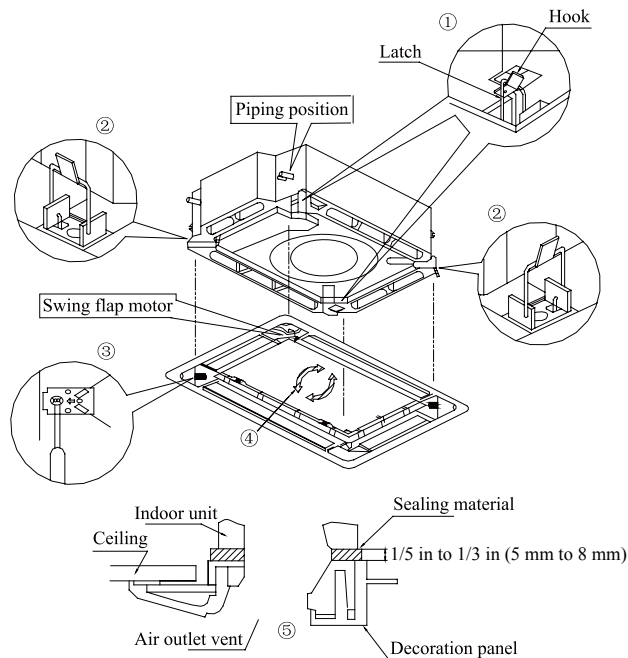

Fig.13
1. Set the panel to the indoor unit body by matching the position of the swing flap motor of the panel to the piping position of the panel to the piping position of the indoor unit as shown by fig.13.
① Install the panel on the indoor unit temporarily. When install, hang the latch on the hook that is located on the opposite side of the swing flap on the panel of the indoor unit. (2 positions)
② Hang the remaining 2 latches to the hooks on the sides of the indoor unit. (Be careful not to let the swing motor lead wire get caught in the sealing material.)
③ Screw the 4 hexagon head screws under the latches in about 3/5 in (15 mm). (The panel would rise)
④ Adjust the panel by turning it toward the direction pointed by the arrow as shown in fig.13, so that the adjust board connect the ceiling well.
⑤ Tighten the screws until the thickness of the sealing material between panel and indoor unit reduced to 5-8mm.